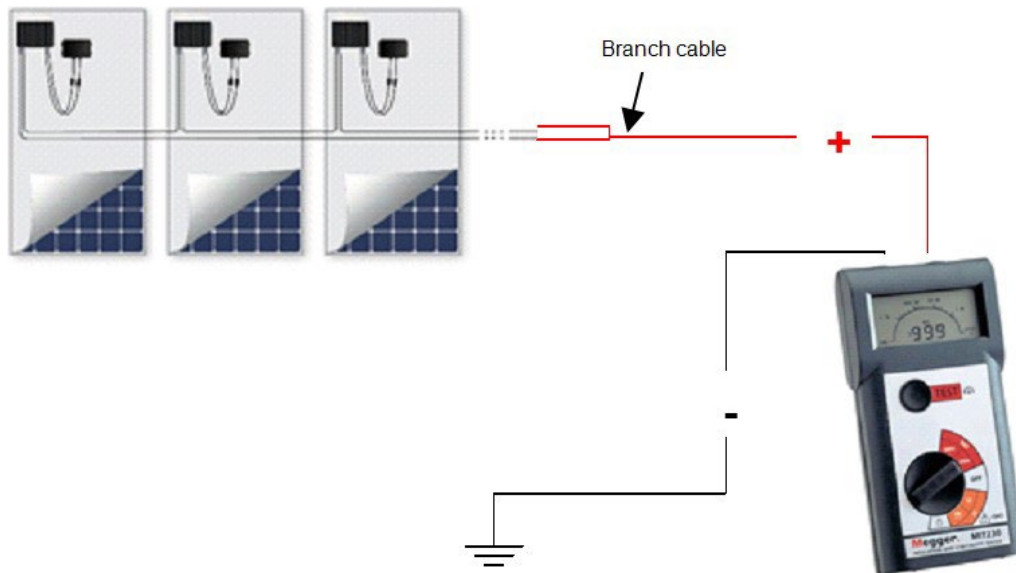

Figure 5: Connecting the Insulation Tester to the PV String
5. Test the string resistance using the insulation tester (see Figure 5 below):